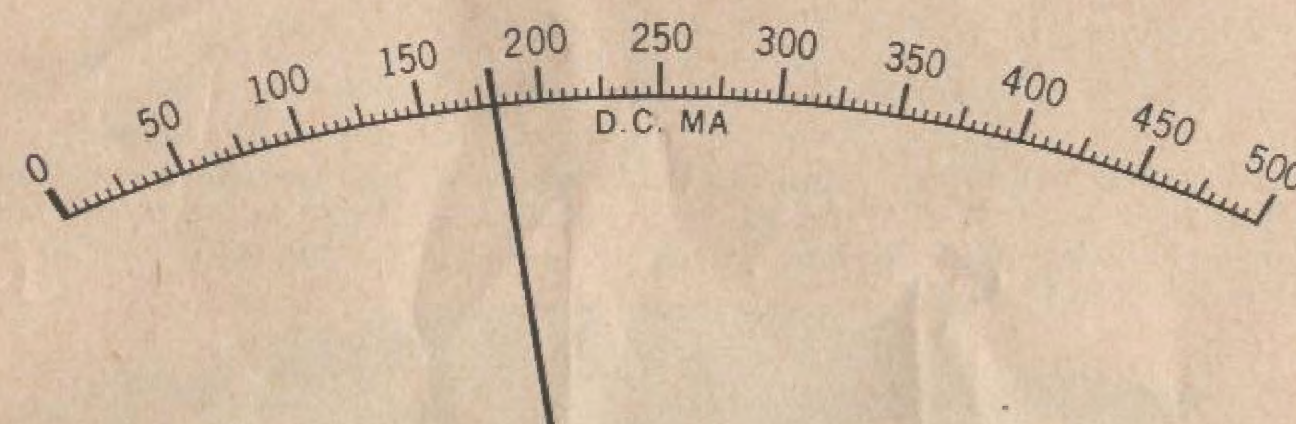

Figure 24—500 MA D.C. Scale
4. The 0-500 MA range is calibrated such that each small division represents 5 MA. If the pointer came to rest as shown in Fig. 24, the current flowing in the circuit would be 180 MA.